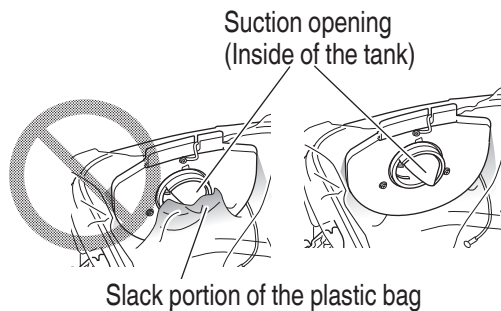

Fig. 15
- When attaching the plastic bag, make sure that the slack portion of the plastic bag does not block the suction port inside the tank. (see Fig. 15)